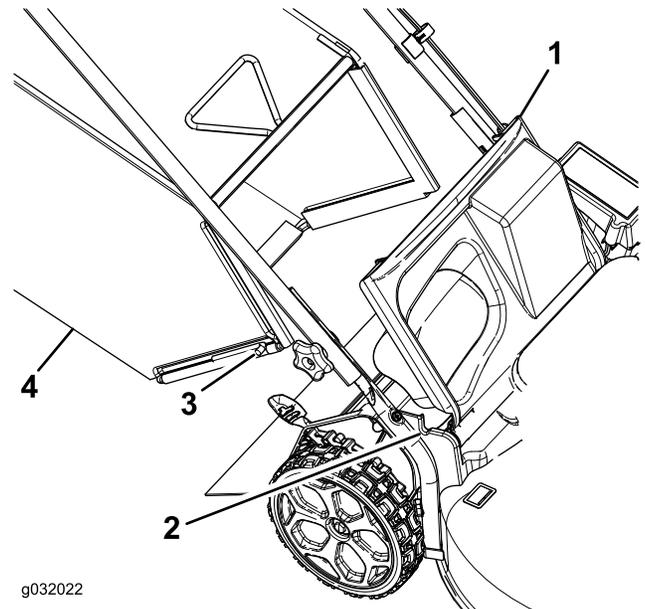

Figure 20
1. Lift up the rear door (Figure 20).
2. Insert the rod ends of the grass bag into the notches in the handle brackets (Figure 20).